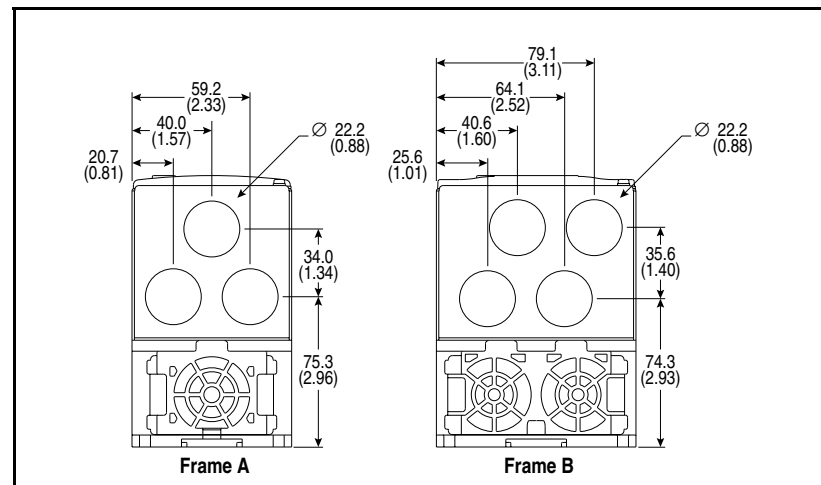

Figure 3.3 – Drive Dimensions - Bottom View
- 1 Height dimension includes NEMA 1/IP30 Kit; see figure 3.3.